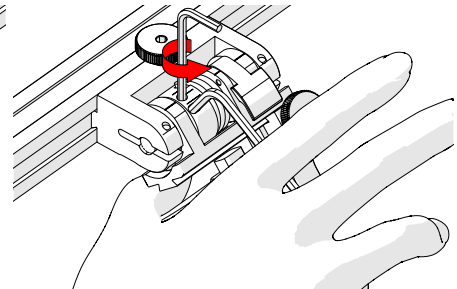

Fig. 128 - Press 3 mm hex wrench down
5. Lightly press the long arm of the 3 mm hex wrench down. Using the 2 mm hex wrench, loosen the force adjustment screw but do not remove it (Fig. 128).